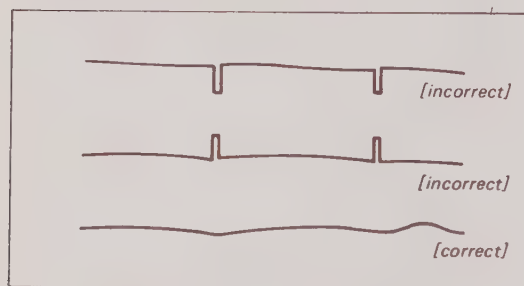

Fig. 8-13. Color AGC blanking
4. Adjust R647 so that there is minimum difference in signal level between the vertical sync interval and the remainder of the waveform (continuous dc level). See Fig. 8-13.